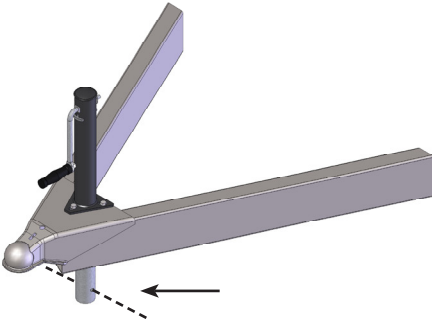

Figure 3
- d) Align the jack over the mounting holes so that the Flip jack foot mounting holes, on the inner-tube of the jack, are perpendicular to the trailer. For the side-wind jack, the handle should be on the front of the jack, pointing away from the trailer body toward the tow vehicle (See Figures 3 and 4).